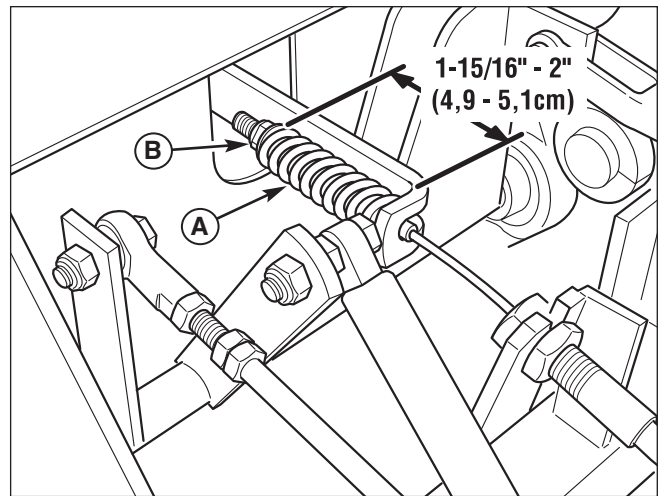

Figure 33. Parking Brake Adjustment
3. Locate the brake spring (A, Figure 33).
5. If the spring is not within this range, release the parking brake and turn the adjustment nut (B) to compress or release the spring.